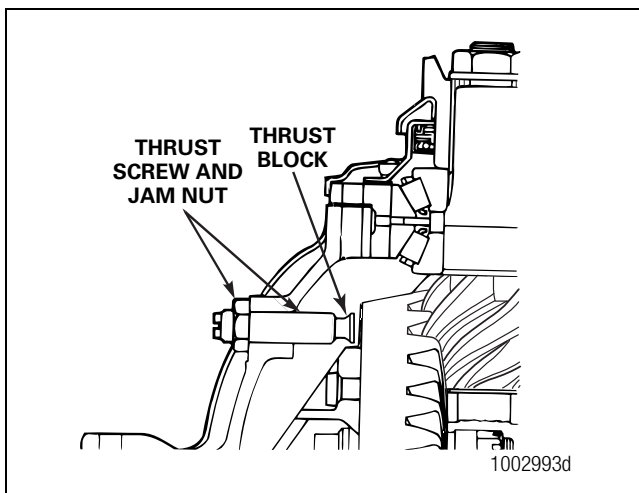

Figure 5.50
1. Install the thrust screw until the thrust block contacts the ring gear. Figure 5.50. Clearance between the thrust screw and the ring gear should be 0.025-0.045-inch (0.635-1.143 mm).